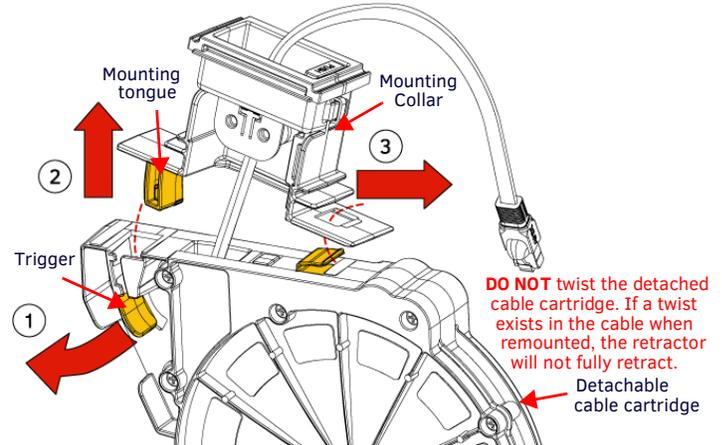

FIG. 4 HPX-N102-ETH-R MOUNTING COLLAR REMOVAL
6. Pull the cable cartridge trigger (FIG. 4) to release the mounting collar tongue.
- Push the cable cartridge trigger up onto the mounting collar tongue until it latches (opposite of FIG. 4).
- Detach the cable cartridge from the mounting collar using the trigger and slide method described in FIG. 4.